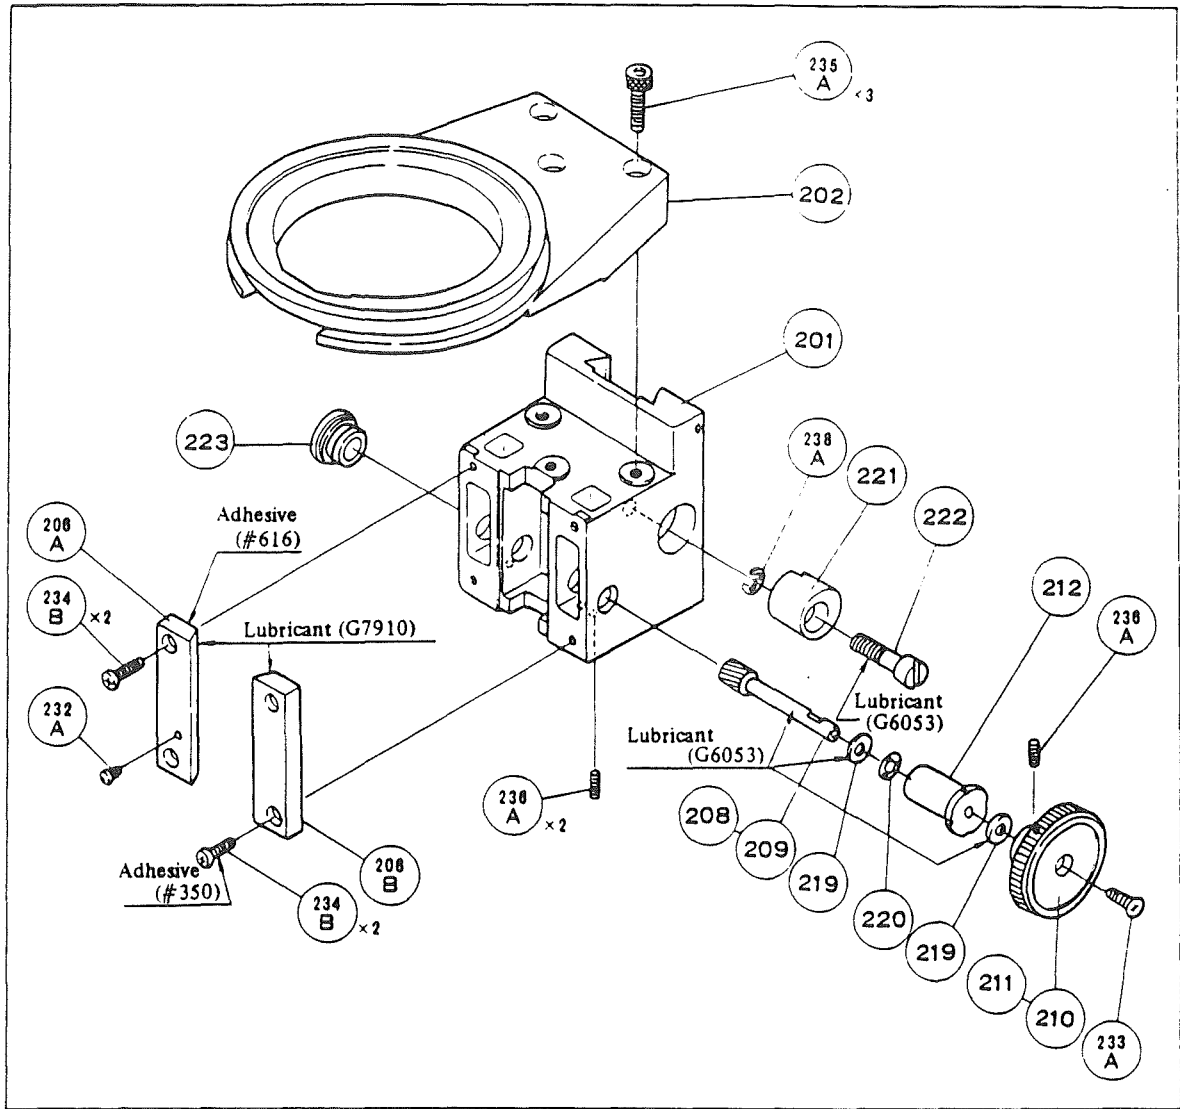

Fig. 28
- 2) After releasing two set screws (236A) on the bottom of (201), remove pinion bearing (212). (Fig. 28).
- 3) Pinion (208) and pinion shaft (209) can be taken off, after condenser focus knob (210) (combined with bush (211)) has been removed. (Fig. 28).
- 4) After unscrewing PM screw (232A) on the (206A), remove the condenser carrier subassembly. (Fig. 28).
Condenser centering mount (303) and dovetail (205) having been attached in the correct position, using the tool, it is not recommended to detach them, so far as no problem arises. (Fig. 28).
- 5) Since of the two dovetail grooves ( 206A ) and ( 206B ), ( 206A ) is to be used as fiducial in reassembly, remove only ( 206B ) in disassembly. (Fig. 28).